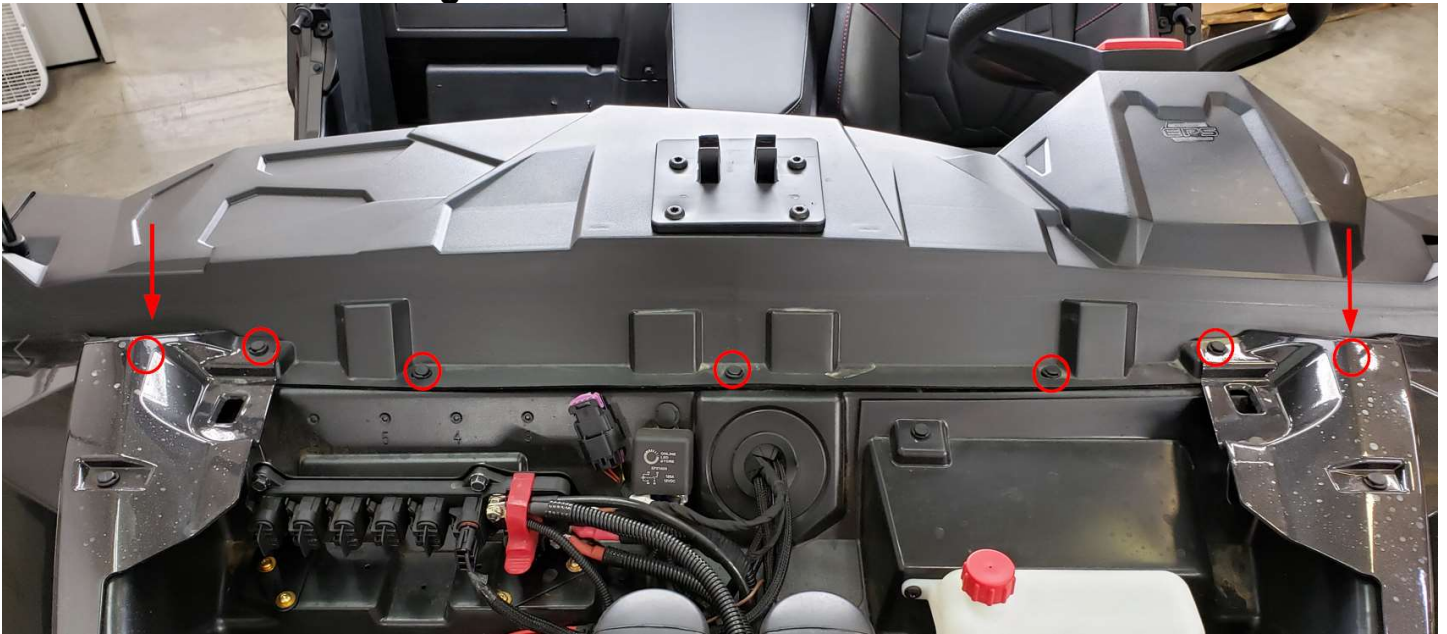
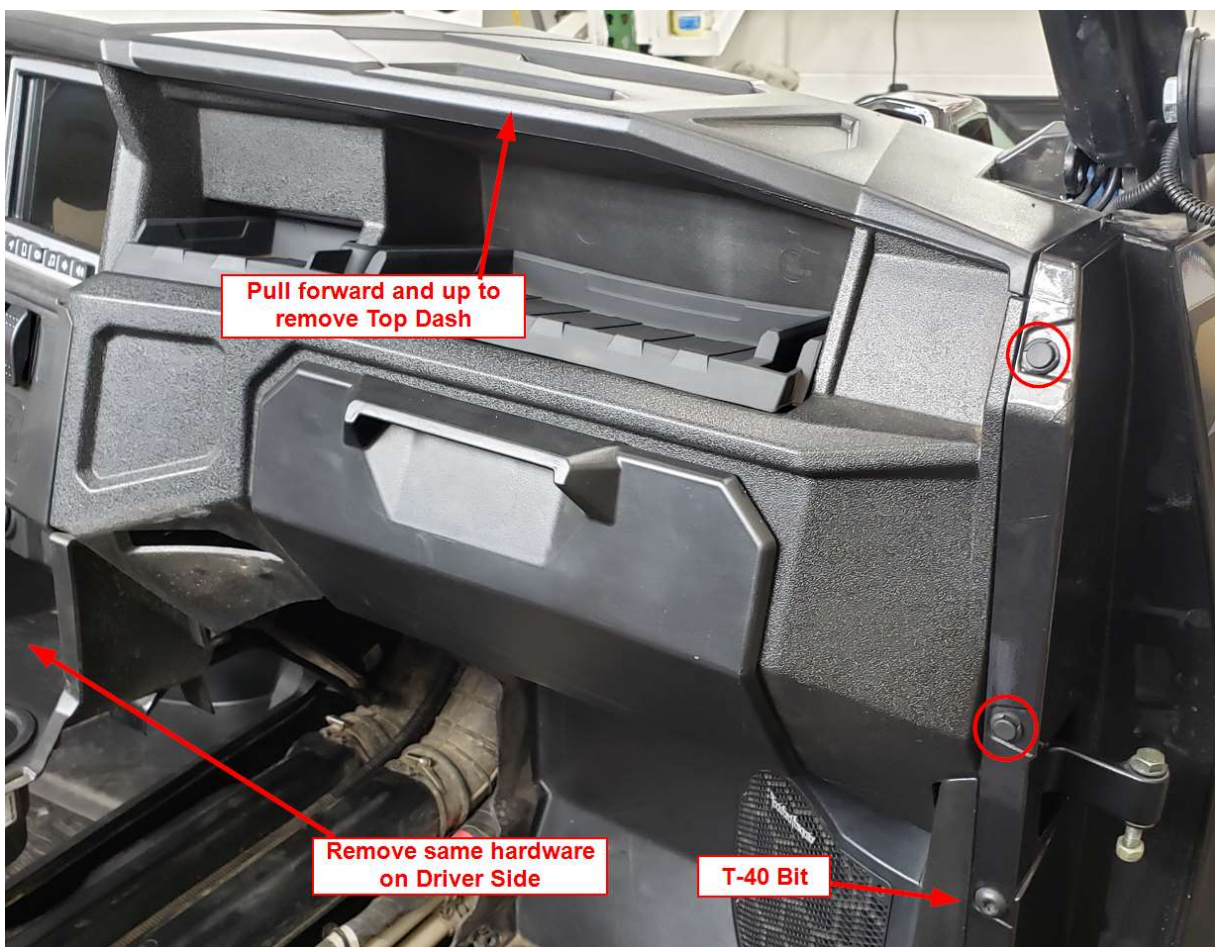

Figure 1
Figure 2
- c. Remove the Top Dash as shown in Figure 1 and Figure 2.